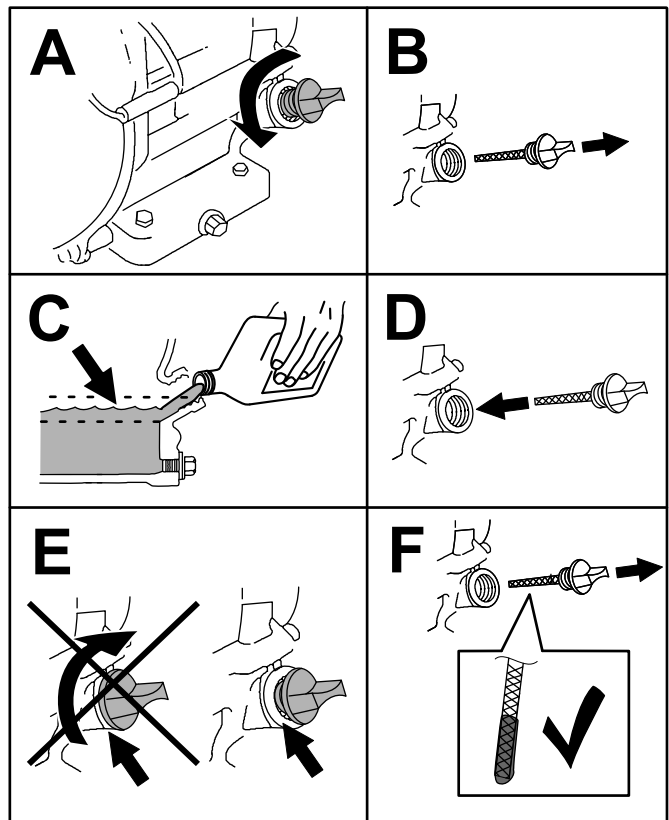

Figure 26
- Slowly pour approximately 80% of the specified oil into the filler tube and slowly add the additional oil to bring it to the **Full** mark (Figure 26).